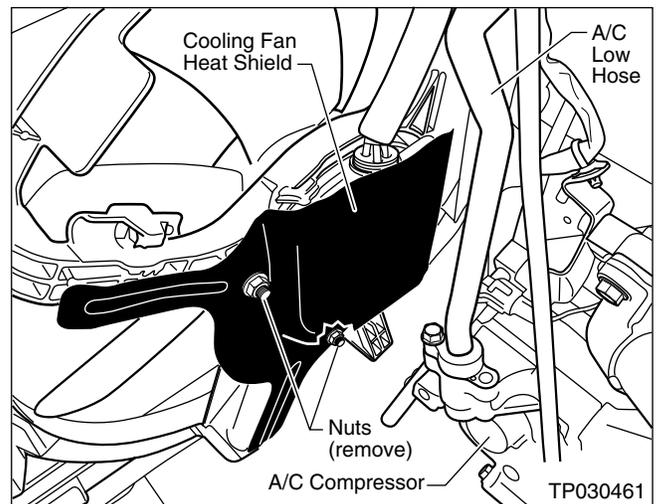

Figure E26
41. **This Step For Sentra ONLY:** Remove two nuts and remove the Cooling Fan Heat Shield (see Figure E26).